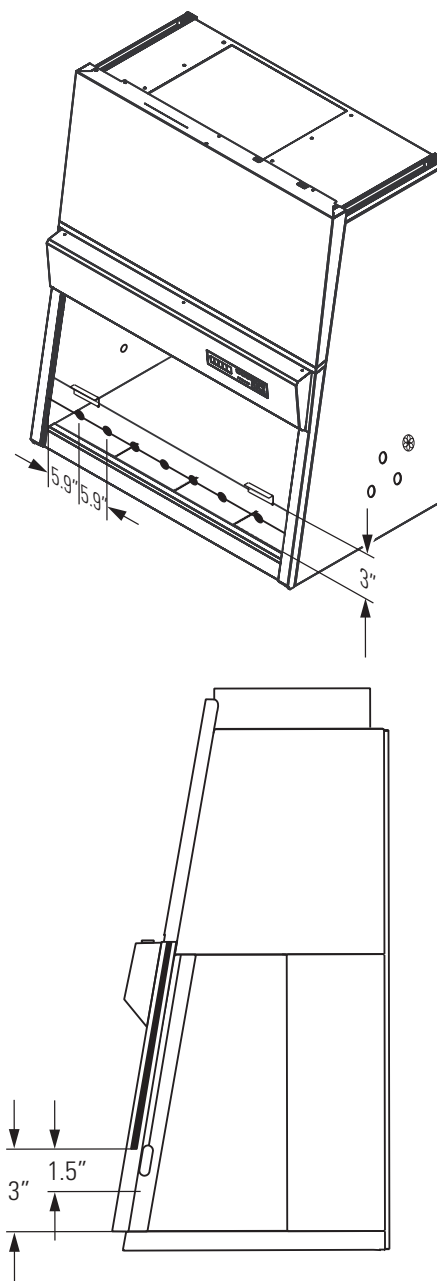

Figure 8-1. Constricted Window Method
4. **Fig. 8-1:** Insert the thermal anemometer probe into the probe holder. Place the probe holder at the window opening work surface, ensuring it is seated properly. Adjust the probe so the air passing through probe is centered in the window opening (1.5 in. [3.8 cm]).
4. **Fig 8-1:** Insert the thermal anemometer probe into the probe holder. Place the probe holder at the window opening work surface, ensuring it is seated properly. See Figure 8-1. Adjust the probe so the air passing through probe is centered in the window opening (1.5 in. [3.8 cm]).